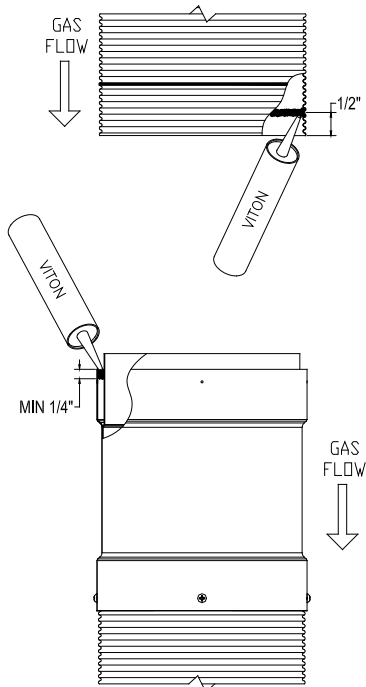

Figure 22 -DuraSeal Flex Viton® caulking
- 3.2. Add another bead of Viton® caulking at 1/2" from the edge of the flexible liner all around the inner side of it (Figure 22).